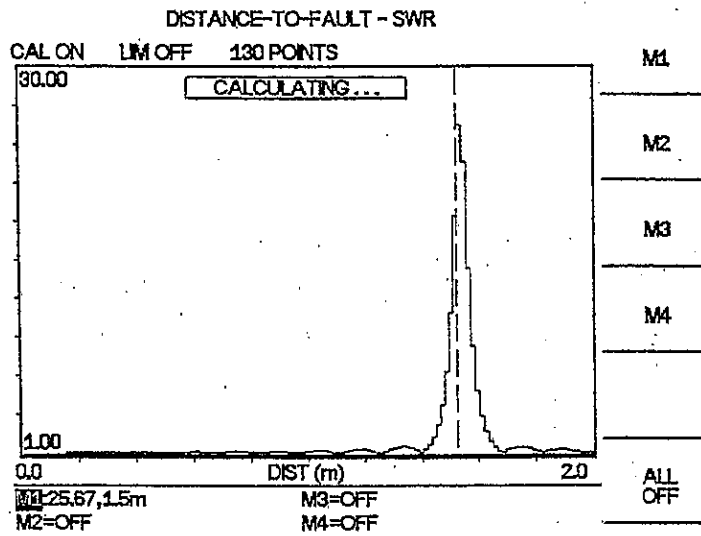

Figure 4-8. DTF - SWR Measurement Results (cable length)
Step 23. Press the **BACK** soft key or the **ESCAPE** key to return to the previous menu. Figures 4-8 and 4-9 show cable length displays in SWR and Return Loss modes.